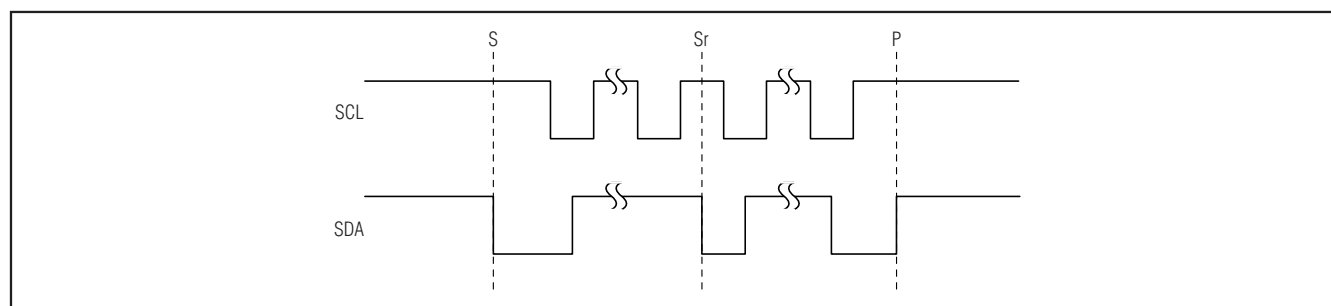

Figure 7. START (S), STOP (P), and REPEATED START (Sr) Conditions
SDA and SCL idle high when the bus is not in use. A master initiates communication by issuing a START condition. A START (S) condition is a high-to-low transition on SDA with SCL high. A STOP (P) condition is a low-to-high transition on SDA while SCL is high (Figure 7).